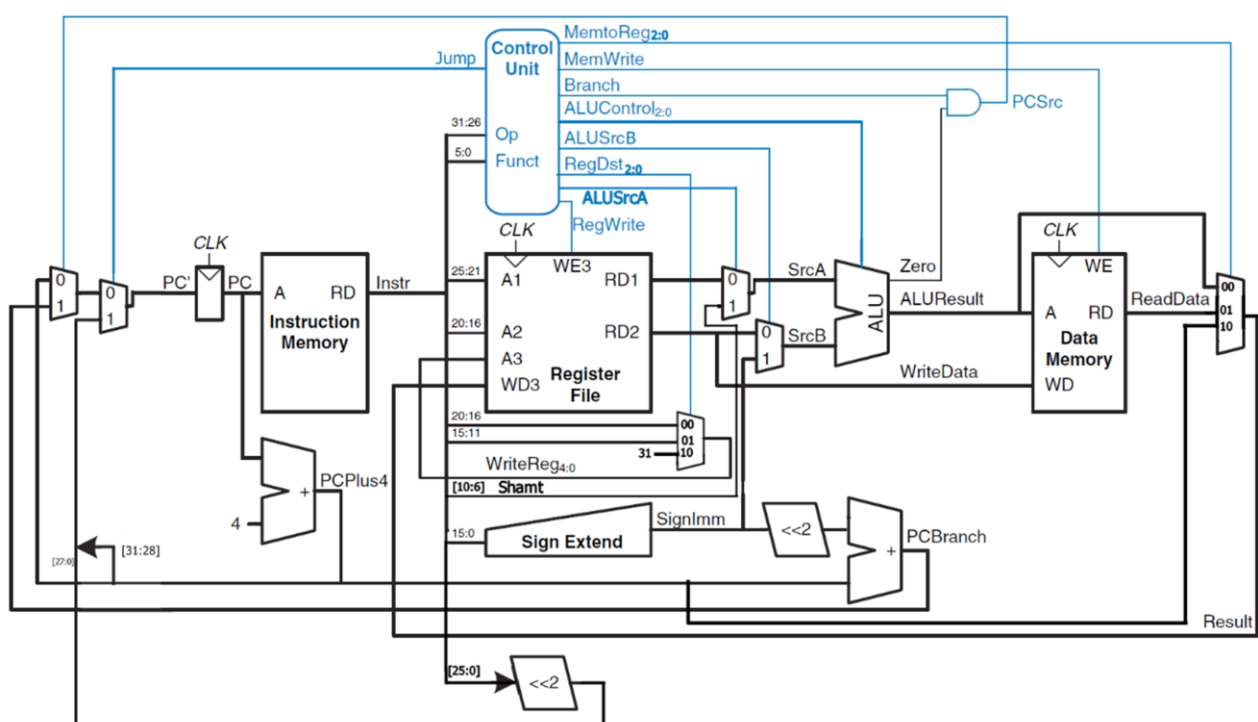

Figure 1: Datapath for Original12
- Study the code and convince yourselves that the *datapath* module exactly corresponds to Figure 1, *maindec* module to Table 1 and *aludec* module to Table 2.
g) [2 Points] Make some observations on the architecture (see Figure 1).